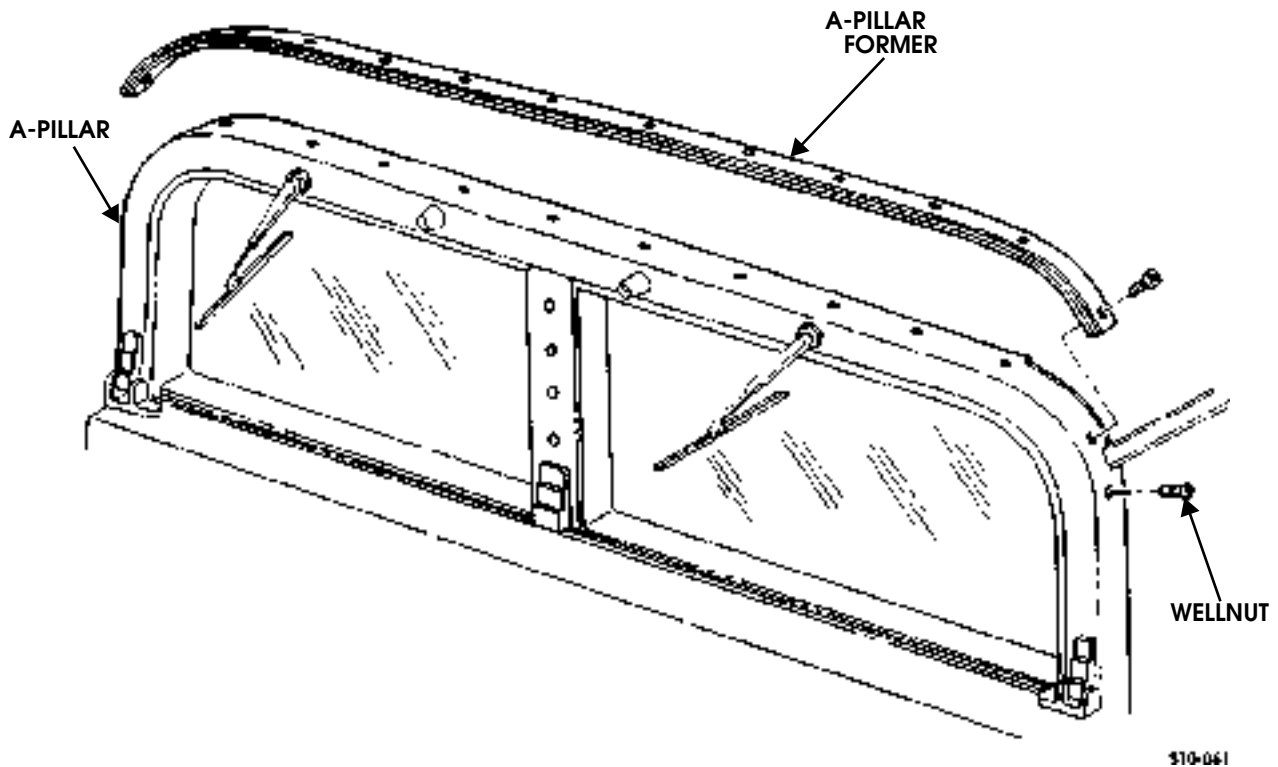

Figure 10-114: A-Pillar Former Assembly Replacement
2. Remove 12 screws and A-pillar former from A-pillar (Figure 10-114).
1. Peel backing paper from A-pillar former and secure former to A-pillar with 12 screws (Figure 10-114).